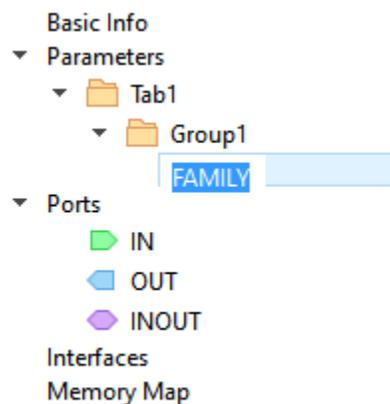

Figure 3.13. Rename a Parameter
- Double-click **NewParam1** to rename the parameter (Figure 3.13). The parameter name is also used as the unique ID of the parameter setting.